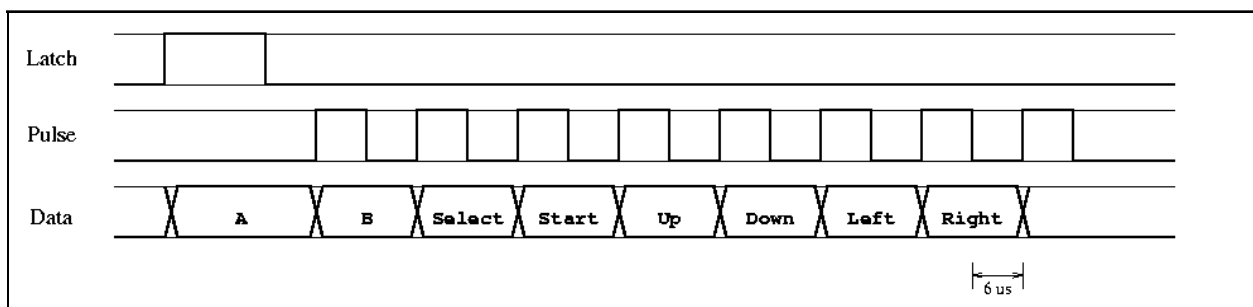

Figure 1: A controller transaction
After detecting the rising edge on Latch, the controller sends the status of the A button on the Data wire; Data is low if the A button is pressed, high if it is not. For each pulse on the Pulse wire, the controller drives the Data wire low if the button corresponding to that pulse was pressed. (The button states on Data are thus active low.) The button order is always the same: A, B, Select, Start, Up, Down, Left, Right. Again, see Figure 1 for more information.
1. Turn in a simulation which shows your Latch and Pulse signals being generated correctly to perform a single polling operation of the controller. Your simulation should look much like Figure 1 but will not include the data from the controller. (20 points)